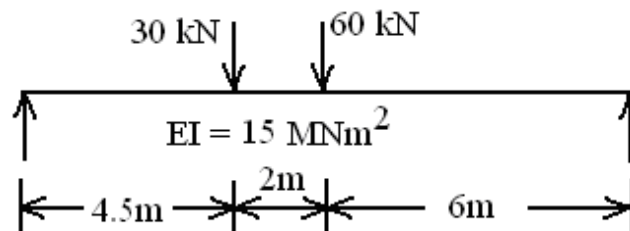

figure 1
1. Compute the maximum deflections and support rotations in the beams of the following figure 1 using